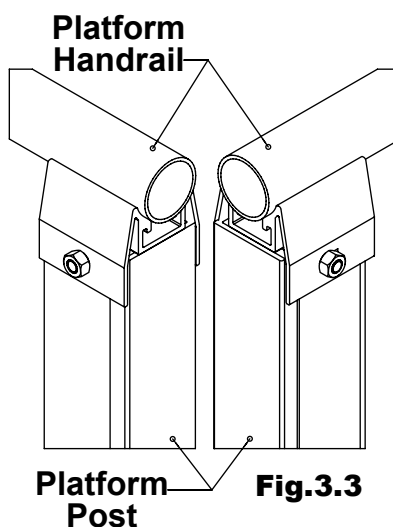
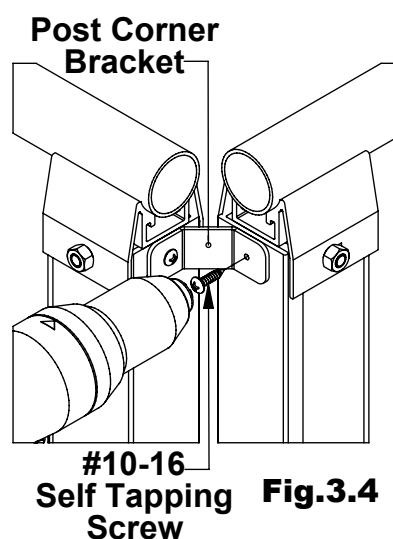

Fig.3.3
Fig.3.4
3.2 POST CORNER BRACKET INSTALL: Once all handrail has been attached to platform the post corner brackets will need to be installed in all corners where handrail meet (**Fig.3.3**). Place bracket in the corner with the pilot hole in the bracket centered on the platform post, and the edge flush up against the handrail bracket attached to the platform post. Using a self-tapping screw and cordless drill attach the post corner bracket to platform post (Fig.3.4). NOTE: If corners do not line up perfectly it may be necessary to force the second post into the proper position.